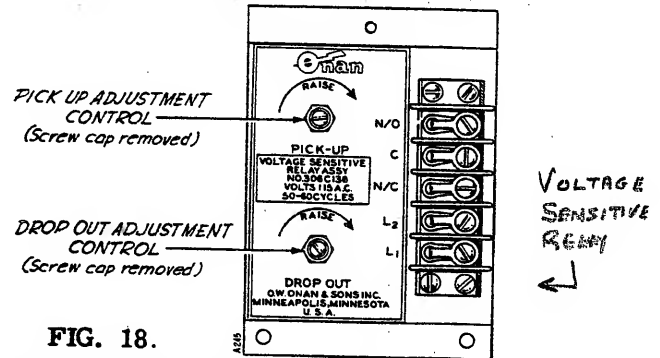

FIG. 18.
1. Note that there are two adjusting controls. Remove the vinylite caps covering the adjustment controls. See Fig. 18.